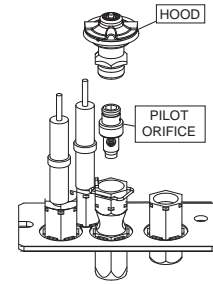

FIG.2
- 9. To convert the pilot, remove the clip from the side of the pilot with pliers. Pull the pilot hood off. Using a 5/32" hex head Allen key, remove the pilot orifice. Replace the pilot orifice with the one supplied. Align the pilot hood back to its original position and place the clip back on the pilot. **(FIG.2)**